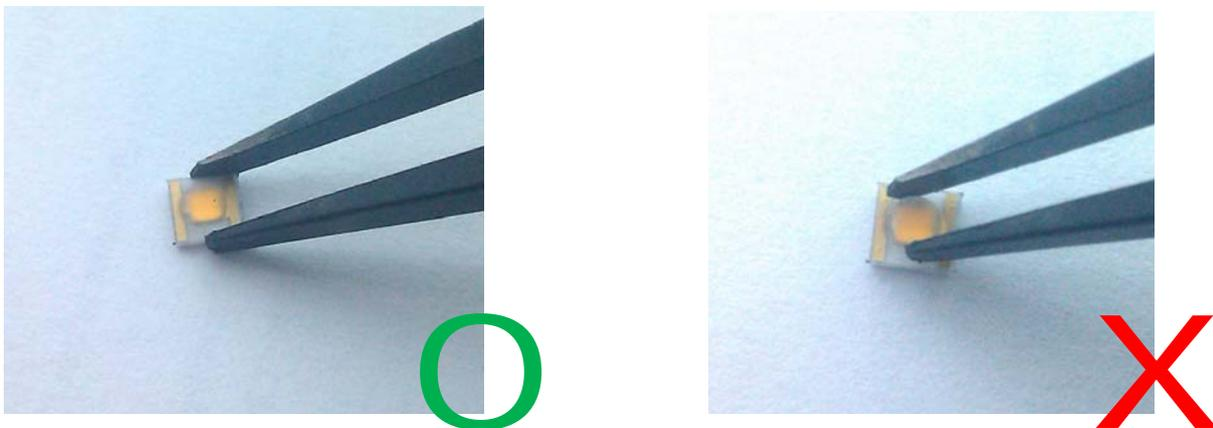

Figure 6. Proper use of tweezers
2. If manual pick and place is to be applied, only plastic tweezers should used. Do not touch the lens with the tweezers or fingers. Use tweezers to grab the C35 Emitters at the base gently and put onto the PCB with solder paste carefully, as in Figure 6.